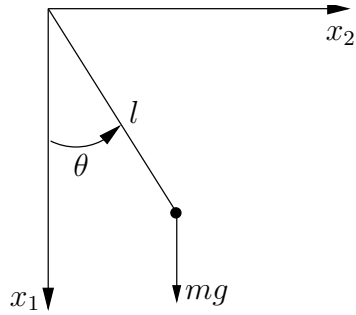

Figure 2: Single pendulum in the plane
- (i) **the pendulum in the plane:** First identify the constraints of the system depicted in fig. 2 and find a good choice of independent parameters that describe the possible configurations of the system. Write the kinetic T and potential V energy in terms of these parameters, and define $L = T - V$. Then write down the Euler-Lagrange equations for this Lagrange function. Compare the resulting equations of motion with what you would have obtained by the traditional approach, using forces and constraints.